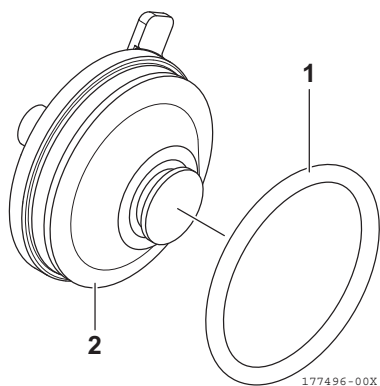

Figure 16
7. Remove the O-ring (1, **Figure 16**) from the cover assembly (2, **Figure 16**).